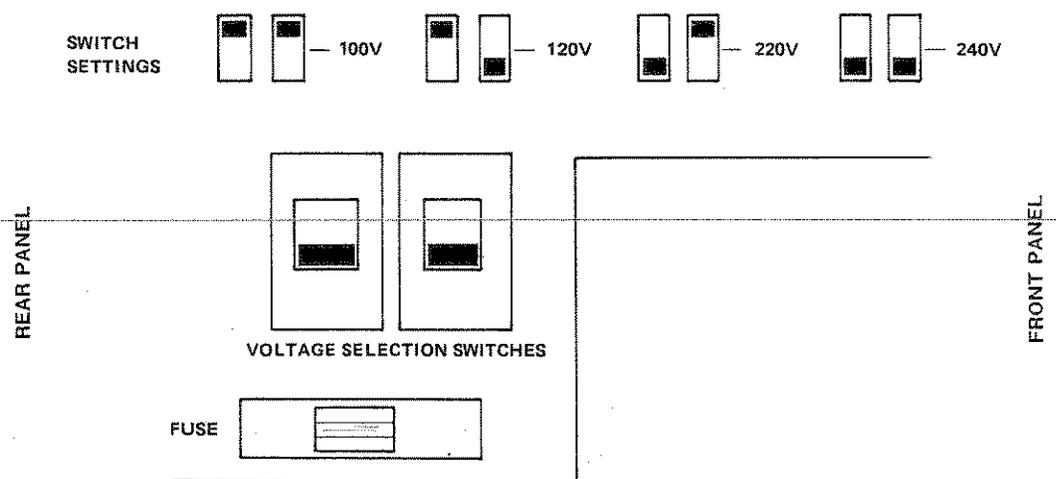

Figure A-1 Line Voltage and Fuse Selection
4. Set the voltage select switches as required (see table below and Figure A-1)